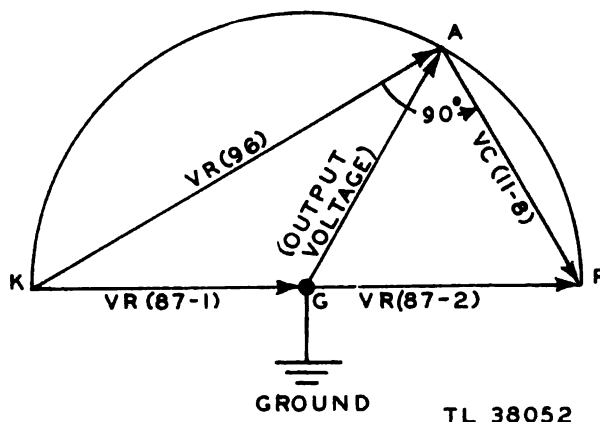

Figure 44. Phase shifter operation, vector diagram.
b. The phase relations existing in the circuit are shown in the vector diagram, figure 44. The voltage from K to G is represented by the vector  $V_R(87-1)$  and that from G to P by vector  $V_R(87-2)$ . These voltages are in phase and added in series, while the midpoint is at ground potential. The output voltage is represented by the vector GA, which is the difference between  $V_R(96)$ , voltage across control 96, and